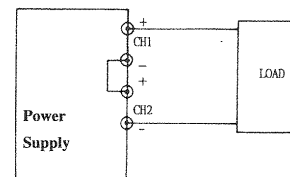

Fig. 5-3 Single Supply
- E. If "single supply" operation is required, this allows the power supply to be used at twice the voltage and rated current simply by using the negative (black) terminal of the CH2 supply and the positive (red) terminal of the CH1 supply, the configuration as shown in Fig. 5-3.